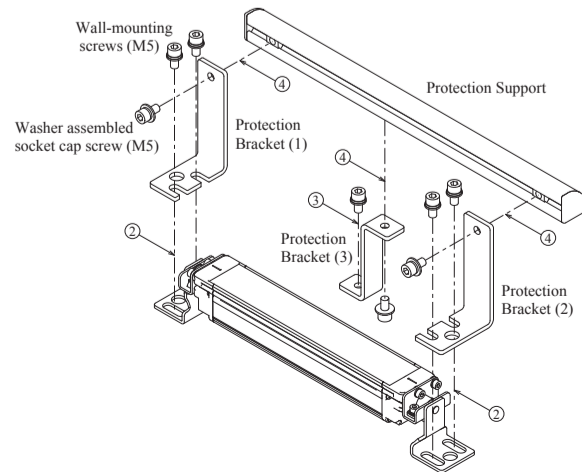

Fig. 11. Assembly Diagram (Backside Mounting)
Secure protection brackets (1) and (2) with the top/bottom mounting bracket of F3SJ-E/B to the wall. (See Fig. 11 and 12.)
Secure the protection support to all the protection brackets mounted to the wall. Use the washer assembled socket cap screws (M5) to secure it. (See Fig. 11 and 12.)